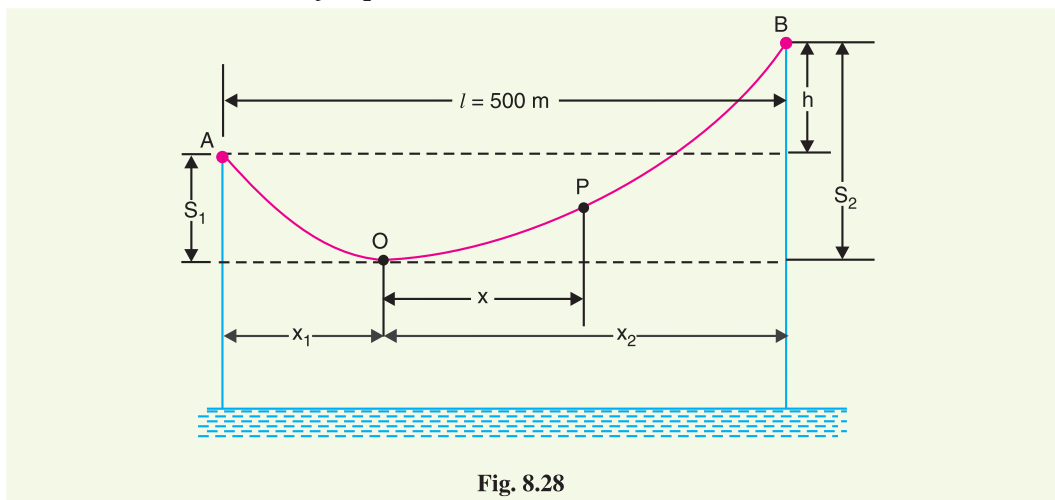

Fig. 8.28
**Solution.** Fig. 8.28 shows the conductor suspended between two supports A and B at different levels with O as the lowest point on the conductor.